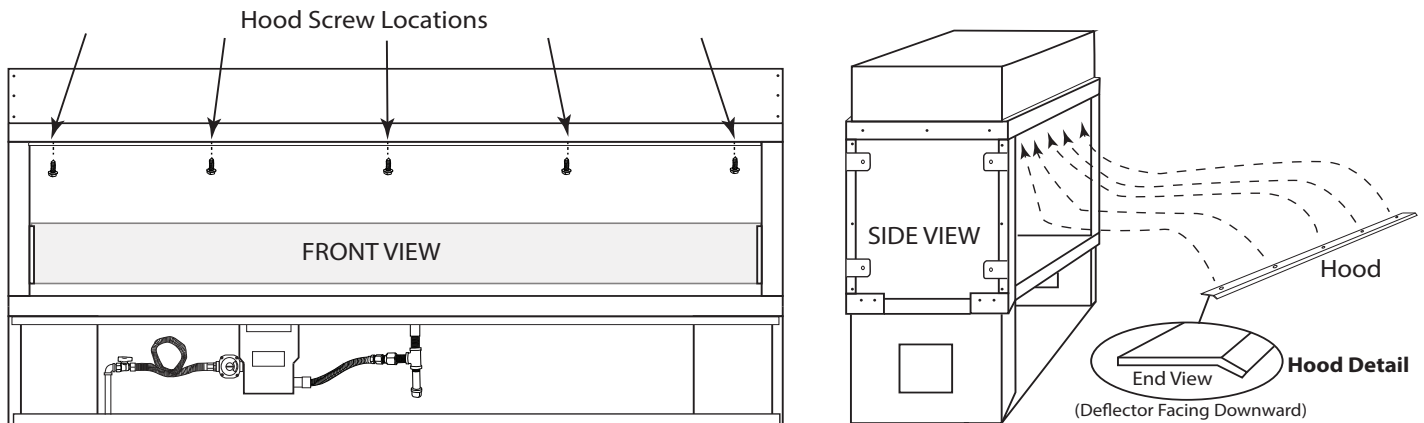

Fig. 35 Installing hood(s) on the fireplace.
The fireplace requires a hood to be installed into the upper opening of the firebox. All models require five (5) screws to secure the hood to the fireplace except the 72-inch model, which uses seven (7) screws to secure the hood. The hood protrudes 1-inch from fireplace opening. Fig. 35 shows hole location and installation process for hood installation. The protruding area of the hood is to be angled downward for proper installation, see Hood Detail below.